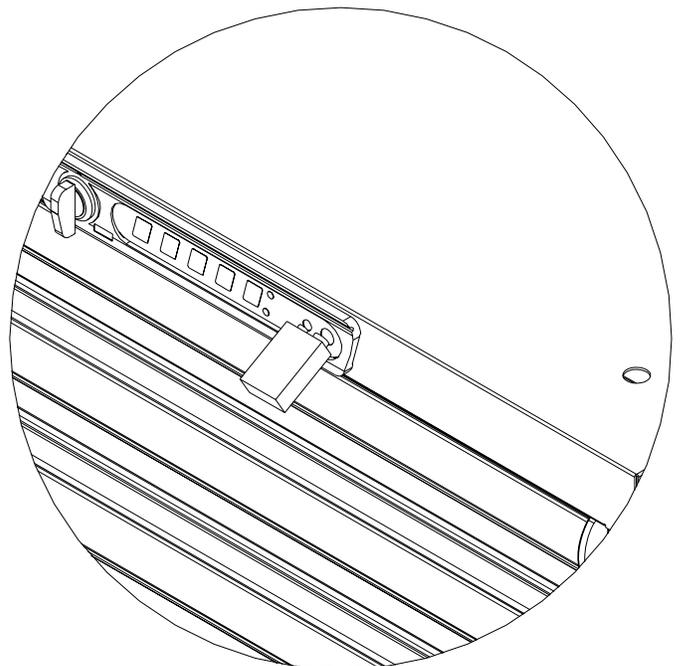

Figure 10
2. Place the leads of a working 9V battery on the exposed pads and press firmly. Match the larger lead with the larger pad and the smaller lead with the smaller pad, Figure 10. Hold the battery firmly in place.